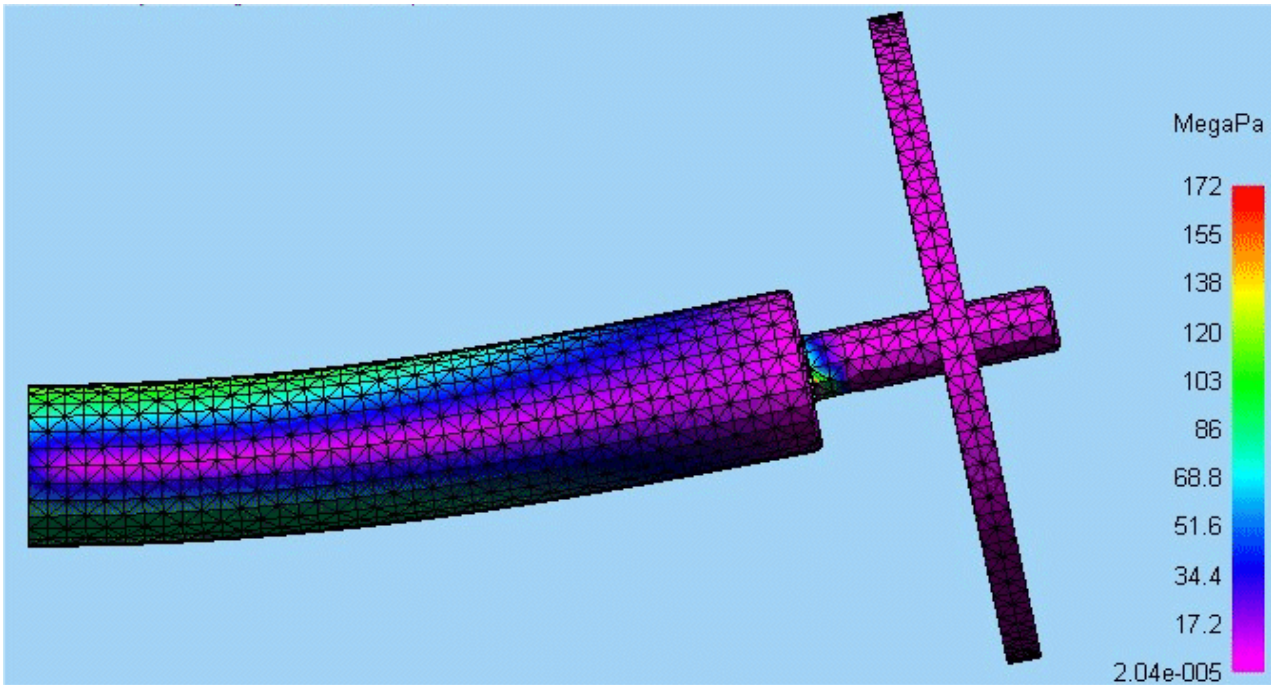

Figure 2: Drive shaft analysis, bending loads only, Von Mises stress (MPa)
4. Initial results: the first run was completed with the default mesh size, with the bending and twisting loads applied independantly to verify that they result in the expected deformations (Figures 2 and 3).